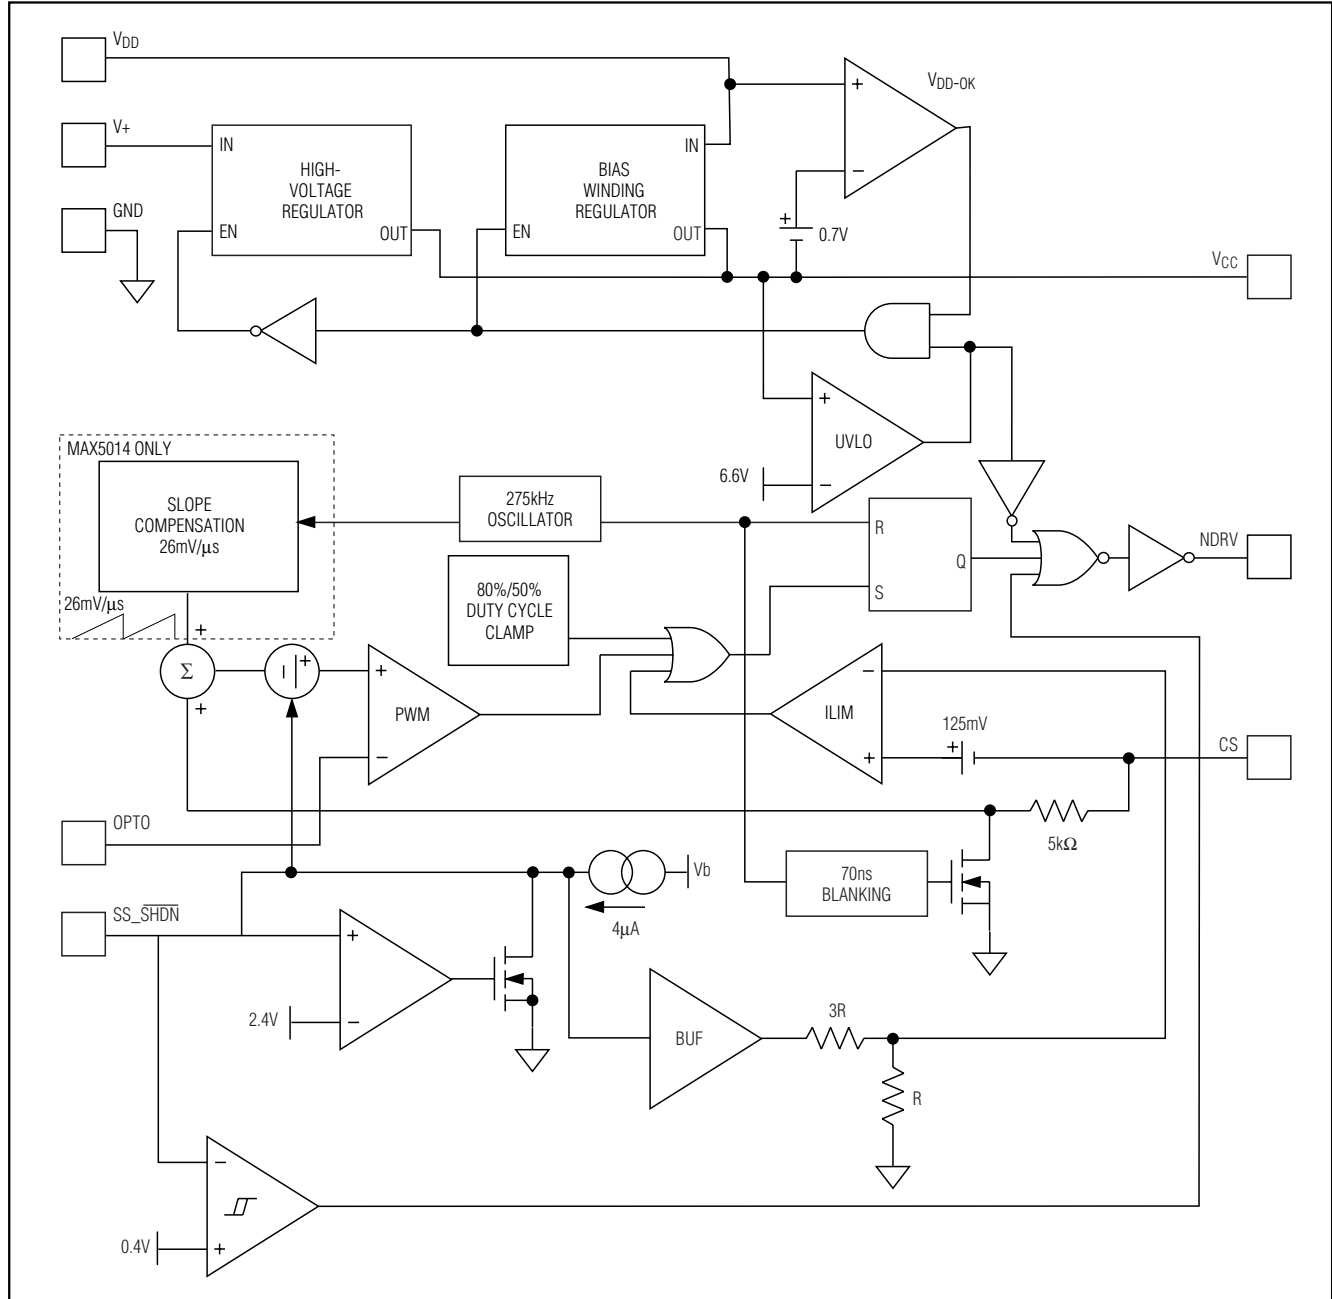
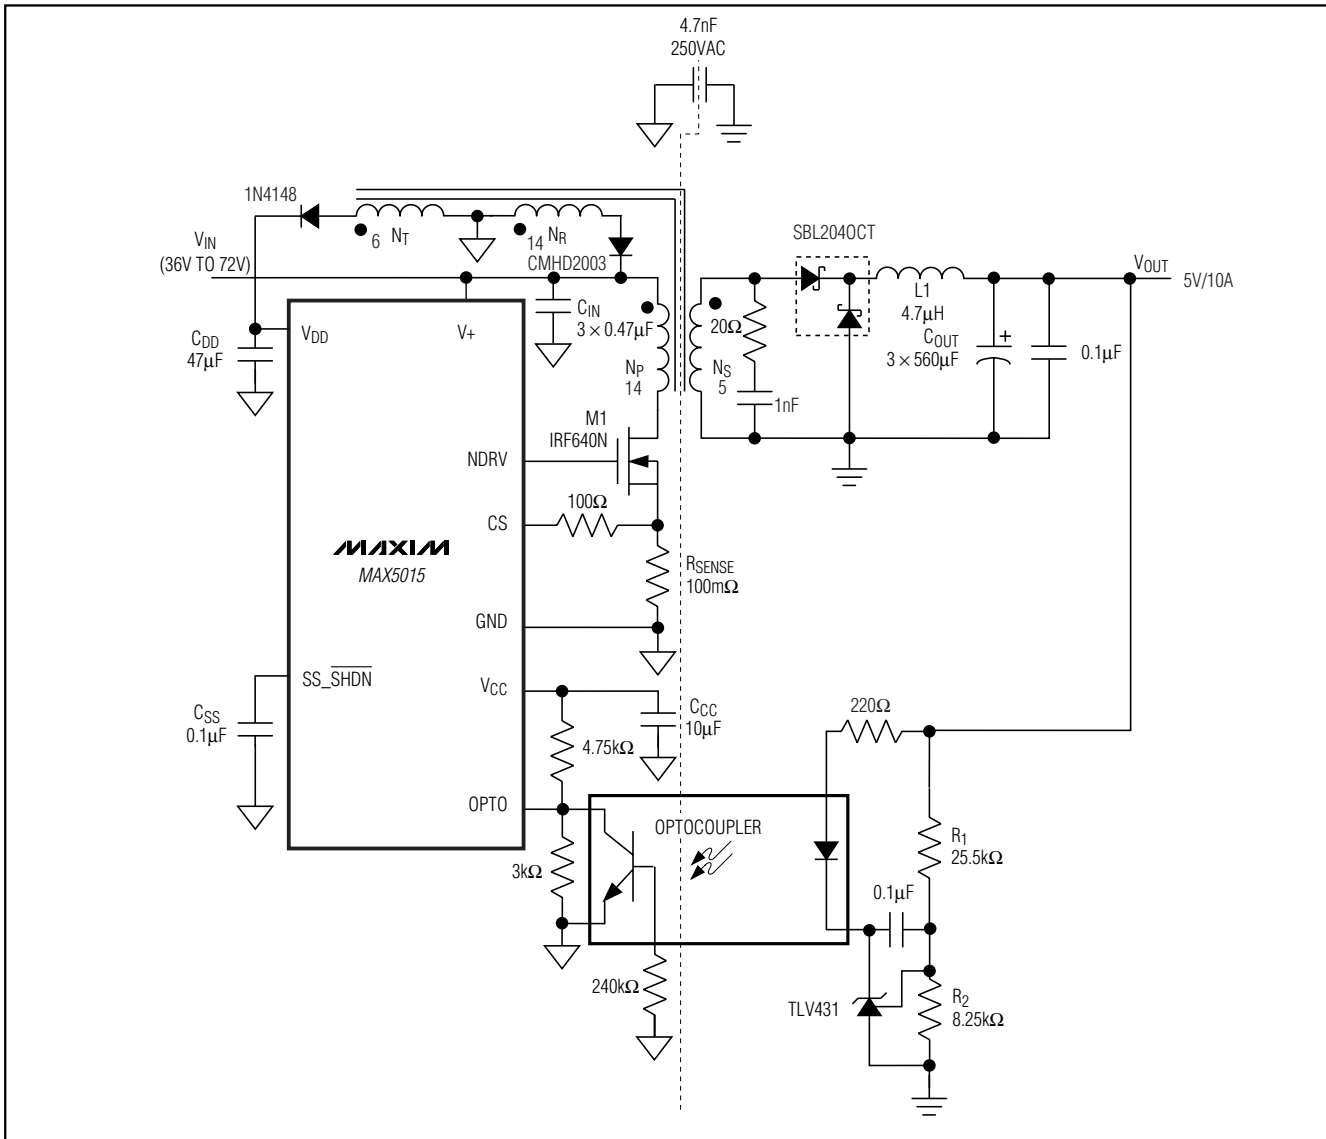

Figure 1. Functional Diagram
Figure 2. Forward Converter
Use the MAX5014/MAX5015 PWM current-mode controllers to design flyback- or forward-mode power supplies. Current-mode operation simplifies control-loop design while enhancing loop stability. An internal high-voltage startup regulator allows the device to connect directly to the input supply without an external startup resistor. Current from the internal regulator starts the controller. Once the tertiary winding voltage is established the internal regulator is switched off and bias current for running the IC is derived from the tertiary winding. The internal oscillator is set to 275kHz and trimmed to ±10%. This permits the use of small magnetic components to minimize board space. Both the MAX5014 and MAX5015 can be used in power supplies providing multiple output voltages. A functional diagram of the IC is shown in Figure 1. Typical applications circuits for forward and flyback topologies are shown in Figure 2 and Figure 3, respectively.
Isolated voltage feedback is achieved by using an optocoupler and a shunt regulator as shown in Figure 2. The output voltage set point accuracy is a function of the accuracy of the shunt regulator and feedback resistor-divider tolerance.
where  $C_{\text{SS}}$  is the soft-start capacitor as shown in Figure 2.
The current-sense (CS) comparator and its associated logic limit the peak current through the MOSFET. Current is sensed at CS as a voltage across a sense resistor between the source of the MOSFET and GND. To reduce switching noise, connect CS to the external MOSFET source through a 100Ω resistor or an RC low-pass filter (Figures 2, 3). Select the current-sense resistor,  $R_{\text{SENSE}}$  according to the following equation:
The following is a general procedure for designing a forward converter (Figure 2) using the MAX5015.
The circuit in Figure 2 was designed as follows:
where  $V_{REF}$  is the reference voltage of the shunt regulator, and  $R_1$  and  $R_2$  are the resistors shown in Figures 2 and 3.